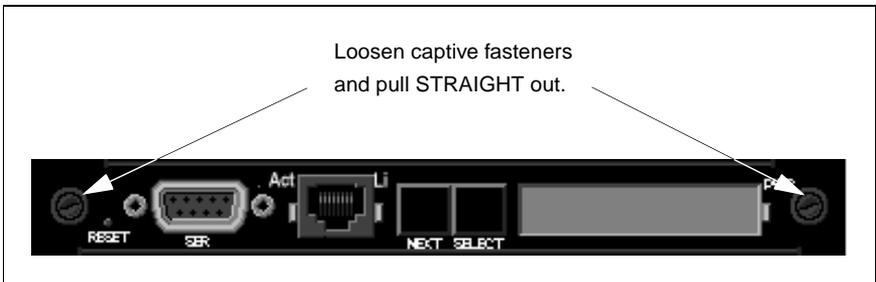

Figure 1 - Removal of an SCP
3. Carefully remove the SCP from the switch fabric using the two captive fasteners (Figure 1).